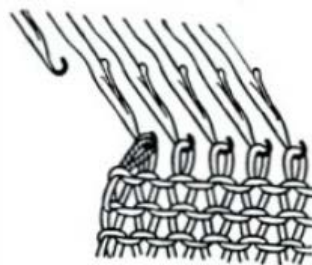

Fig.63
- a. Use single needle transfer tool, transfer the end stitch to the 2nd needle. (See Fig. 63) and place empty needle out of action (Position A)